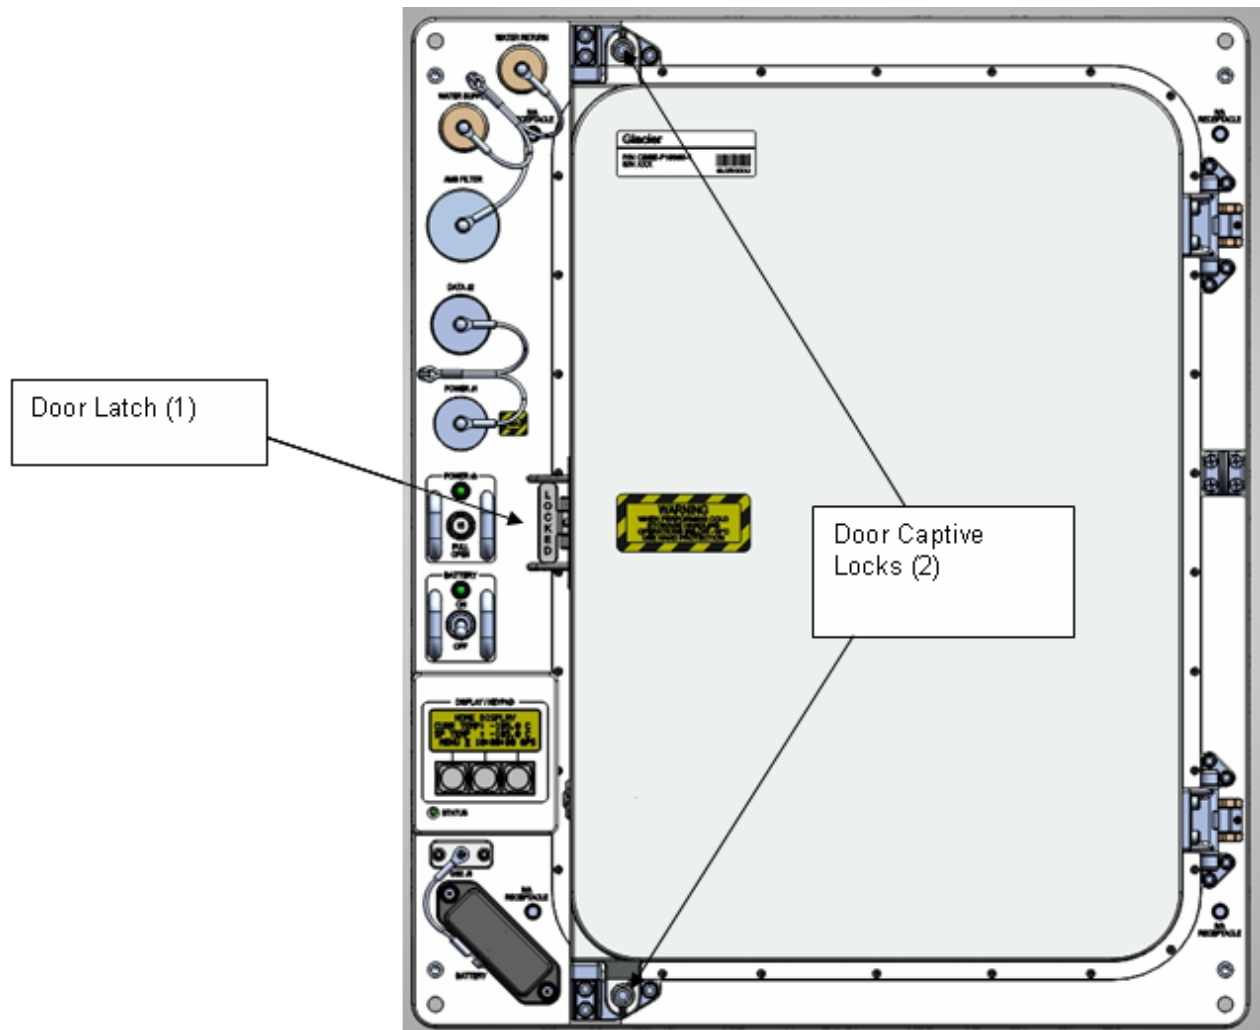

Figure 1. Glacier Configuration
- 1.1 Unlock Glacier Door Captive Locks (two) using 3/16" Hex Head, 3/8" Drive; 1/4"-3/8" Adapter; 4" Ext, 3/8" Drive; (40 to 200 in-lbs) Trq wrench, 1/4" Drive. See Figure 1 Glacier Configuration.